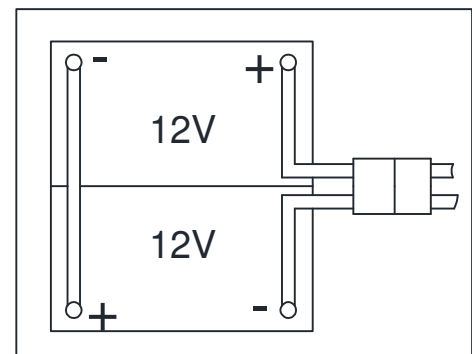

Figure 3
The machine requires two 12 V batteries, connected according to the diagram (Figure3).
6. Open the recovery tank cover (1) and check that the recovery tank (25) is empty; otherwise empty it with the drain hose.(22)
7. Close the recovery tank cover (1).
8. Overturn the recovery tank (25) carefully.
10. Route and install the battery cable as shown in (Figure3), then carefully tighten the nut on each battery terminal.
11. Place the protection cap on each terminal, then connect the battery connector (54).
12. Carefully lower the recovery tank (25).